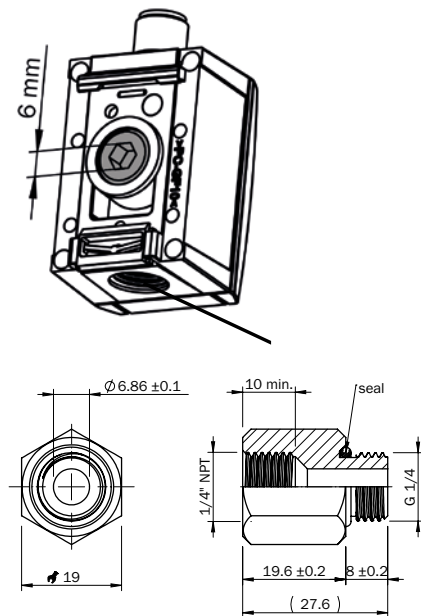

Figure 15: Process connection via 1/4 NPT female thread
5.6 Process connection via 1/4 NPT female thread adapter (Figure 15)